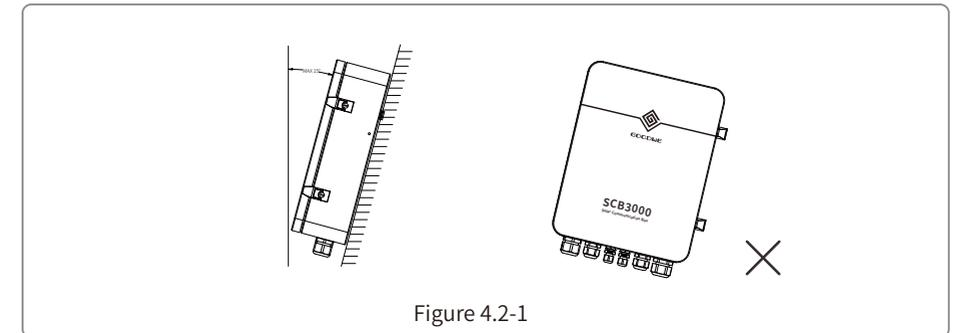

Figure 4.2-1
- The vertical installation or tilt back can not exceed 15 degrees, must not be tilted sideways, the wiring area should be facing down, as shown in Figure 4.2-1.